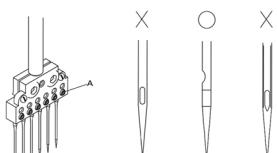

图8(Fig.8)
1.拧下螺钉(A)并取下针。(图8)
1. Loosen screw (A) and take out the used needle.(Fig.8)
2. Put new needle into the holder holes as they can go and left the long groove of needle face you and Fasten Screw (A)